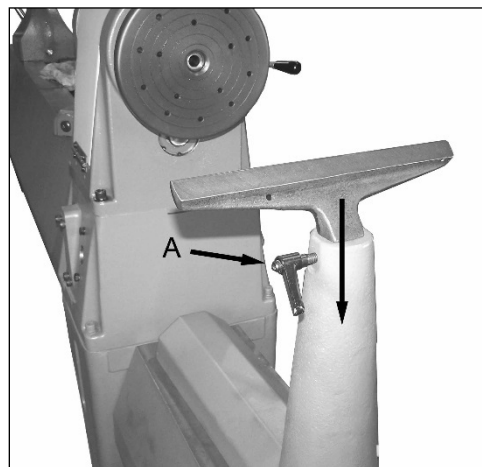

Figure 7
3. Insert the tool rest into its holder as shown in Figure 7 and when the desired position is found, lock into place with handle A.